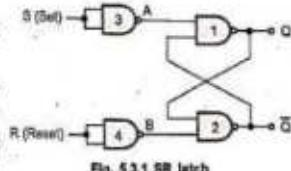

Fig. 5.3.1 SR latch
- Fig. 5.3.1 shows SR latch which is 1-bit memory cell.